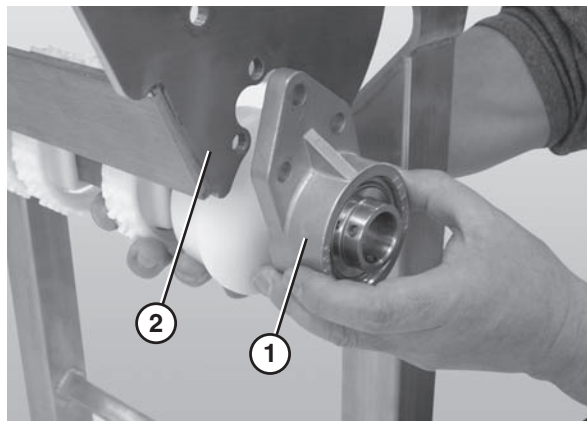

Figure 70
7. Disconnect the 3 hole flange bearing (**Figure 70, item 1**) from the nose bar drive weldment (**Figure 70, item 2**).